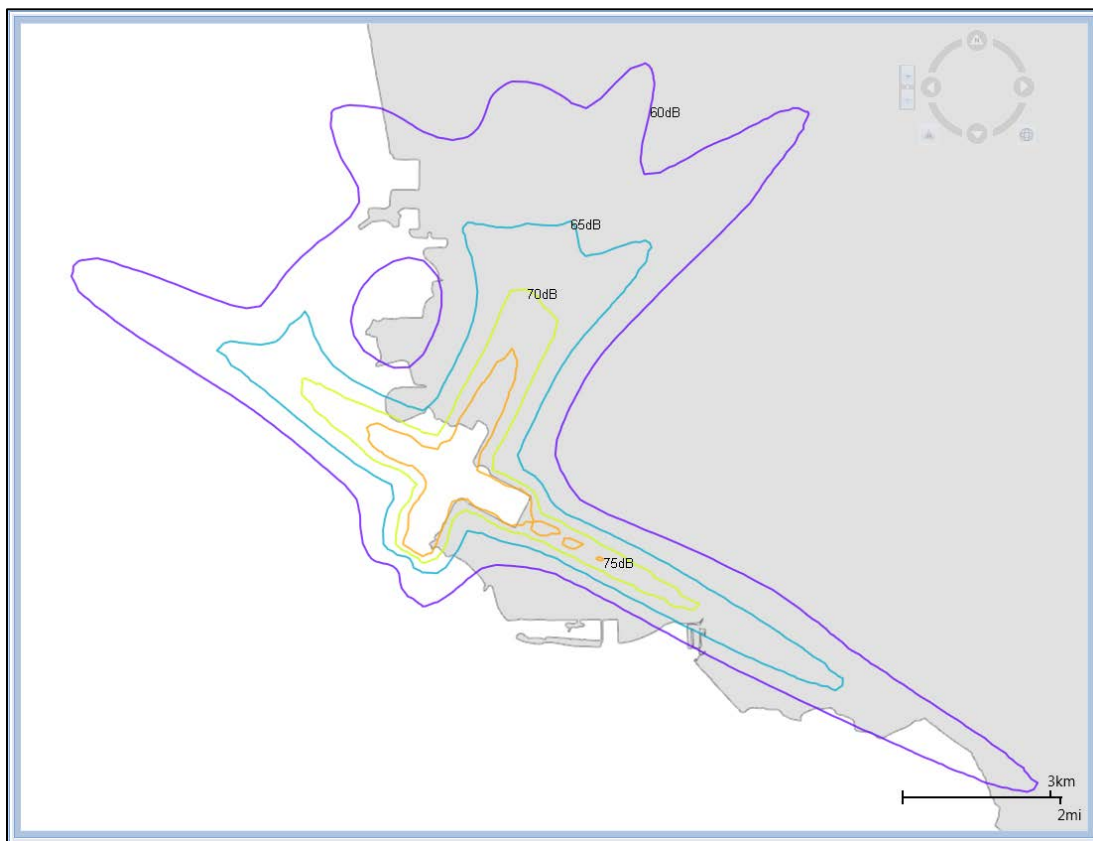

Figure 5-22 Sample Contour Layer
6. The contour layer is displayed on the map (Figure 5-22) and in the *Layers* manager.